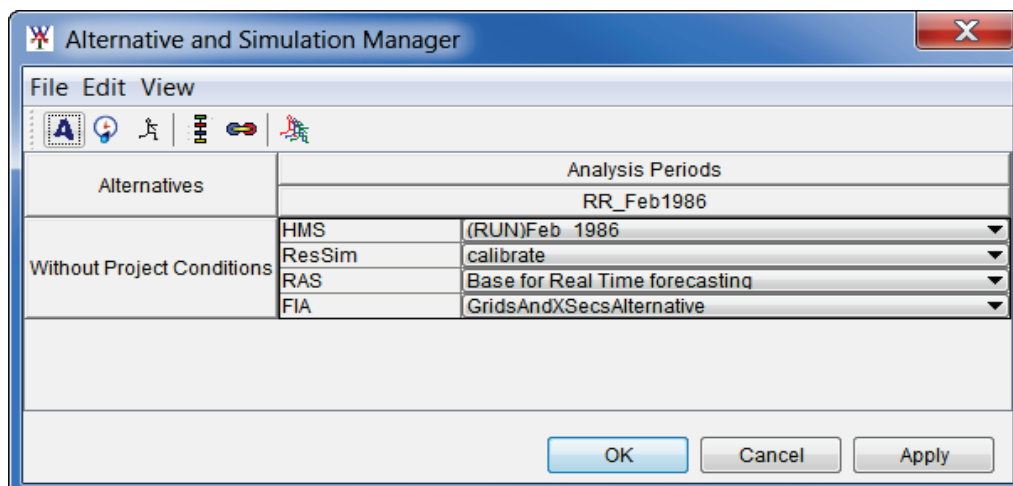

**Figure 11.9** Create New Simulation Dialog Box
1. From the **Alternative and Simulation Manager** (Figure 11.8), from the table, right-click on the intersection of an alternative and analysis period (blank). From the shortcut menu click **Create Simulation**. The **Create New Simulation** dialog box will open (Figure 11.9).
2. HEC-WAT has defined a default name for the simulation (e.g., *Without Project Conditions-RR\_Feb1986*) in the **Name** box (Figure 11.9). The name is a combination of the HEC-WAT alternative name and analysis period name, where the intersection was in the table (name can be changed). Also, in the **Alternative** and **Analysis Period** lists (Figure 11.9) the selections have already been made based on the intersection in the table. The selected **Alternative** cannot be changed, but the selected **Analysis Period** can be changed.
4. In the **F Part** box (Figure 11.9), a DSS F-Part is displayed that was generated by HEC-WAT based on the alternative and analysis period names.
5. In the **Programs** table (Figure 11.9), the software applications that were defined in the program order appear in the order the software applications were selected. Now the user must select the appropriate alternative (i.e., plan, run) for each software application. From the **Alternative** column, for example, from the list for **HMS** (Figure 11.10), select the appropriate HEC-HMS run (*(RUN)Feb\_1986*). Repeat the process for the other software applications.
- Now that all of the alternatives have been selected, click **OK**. The **Create New Simulation** dialog box will close (Figure 11.9). On the **Alternative and Simulation Manager** (Figure 11.11), the intersection of the alternative and analysis period now provides information about the simulation.
**Select Simulation** selector will close (Figure 11.14) and the **Create New Simulation** dialog box will open (Figure 11.9).
3. HEC-WAT has defined a default name for the simulation (e.g., *Without Project Conditions-RR\_Jan1986*) in the **Name** box (Figure 11.9). The name is a combination of the HEC-WAT alternative name and analysis period name, where the intersection was in the table (name can be changed). Also, in the **Alternative** and **Analysis Period** lists (Figure 11.9) the selections have already been made based on the intersection in the table. The selected **Alternative** cannot be changed, but the selected **Analysis Period** can be changed.
5. In the **F Part** box (Figure 11.9), a DSS F-Part is displayed that was generated by HEC-WAT based on the alternative and analysis period names.
6. In the **Programs** table (Figure 11.9), the software applications that were defined in the program order appear in the order the software applications were selected. The model alternative (i.e., plan, run) for each software application that was created for the simulation that was being copied from is displayed. The user can make adjustments if warranted for this new simulation.
7. Now that all of the model alternatives have been selected, click **OK**. The **Create New Simulation** dialog box will close (Figure 11.9). On the **Alternative and Simulation Manager** (Figure 11.11), the intersection of the alternative and analysis period now provides information about the simulation.